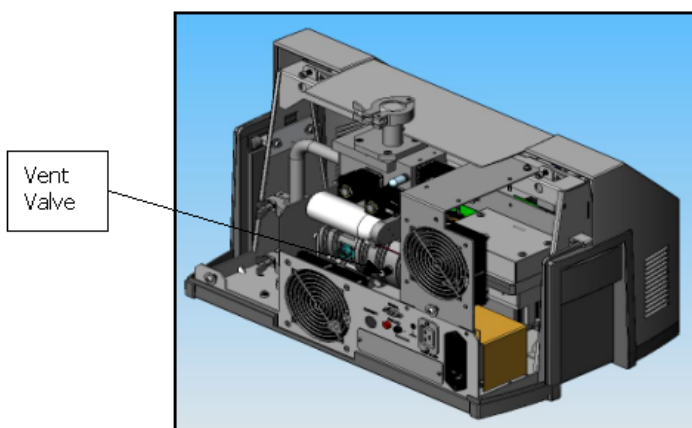

Figure 16: Vent Valve
35. Ensure that the vent valve on the turbo molecular pump (if installed) is tightened (Figure 16: Vent Valve).